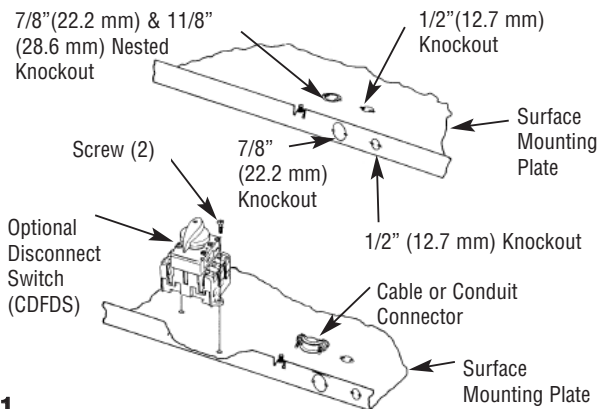

Figure 1
Installation of Surface Mounted Heaters (See Figures 1 and 2)
5. Install the optional disconnect switch CDFDS (if required) as shown in Figure 1. Refer to accessory installation manual for proper wiring.